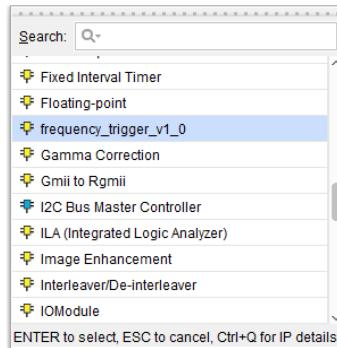

Figure 12.44: frequency_trigger_v1_0 core in the IP Catalog
13. In the **IP Catalog**, search for the **frequency_trigger_v1_0** core, see Figure 12.44.